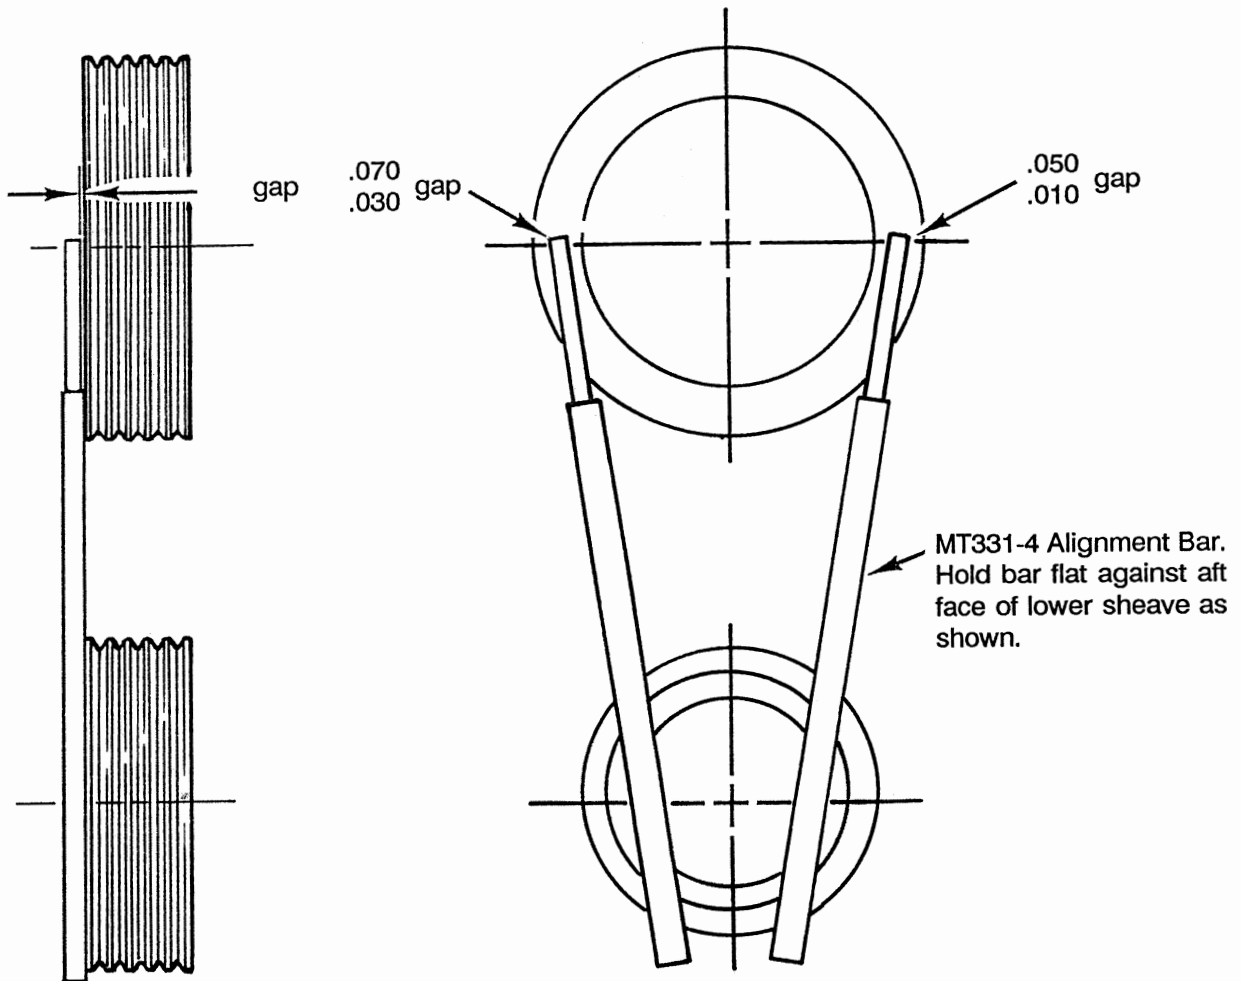

Figure 1
- b) Check sheave alignment on left and right sides per Figure 1 on reverse side.
- c) The clutch lateral centering strut may be adjusted to meet the requirements shown in Figure 1, but the following clearances must be maintained:
- c) Check sheave alignment on left and right sides per Figure 1 on reverse side.